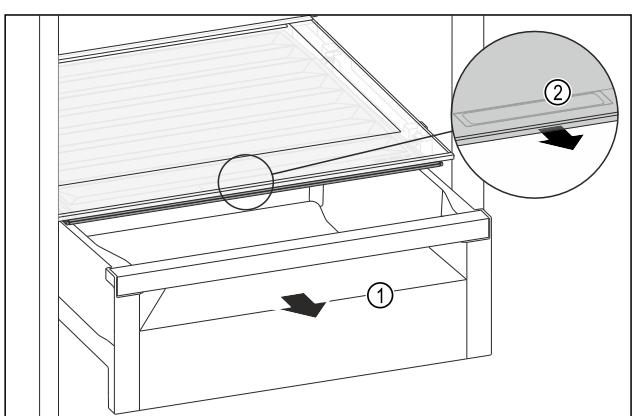

Fig. 85
► Pull out the drawer Fig. 85 (1).
► Grip the handle recess Fig. 85 (2) on the lid while pulling the lid forward at the same time.